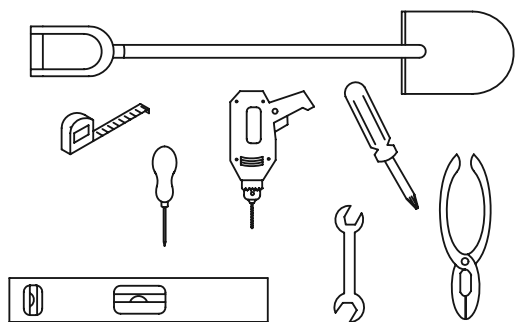

FIG. 1
- 1. WEATHER WARNING ! DO NOT ERECT YOUR BUILDING ON A WINDY DAY. ANY BUILDING LEFT PARTIALLY CONSTRUCTED MAY BE SERIOUSLY DAMAGED (FIG.1).**
- 3. ALL ASSEMBLY OPERATIONS MUST TAKE PLACE ON A COMPLETELY LEVEL SURFACE (FIG. 1)**
(FIG. 1).
- 3. TOUTES LES OPÉRATIONS DE MONTAGE DOIVENT ÊTRE RÉALISÉES SUR UNE SURFACE PLANE (fig 1).**